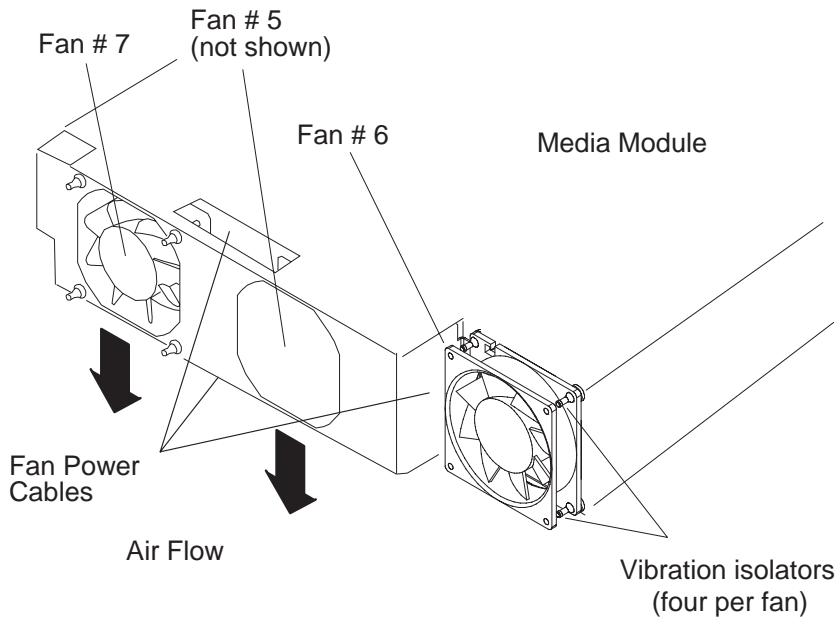
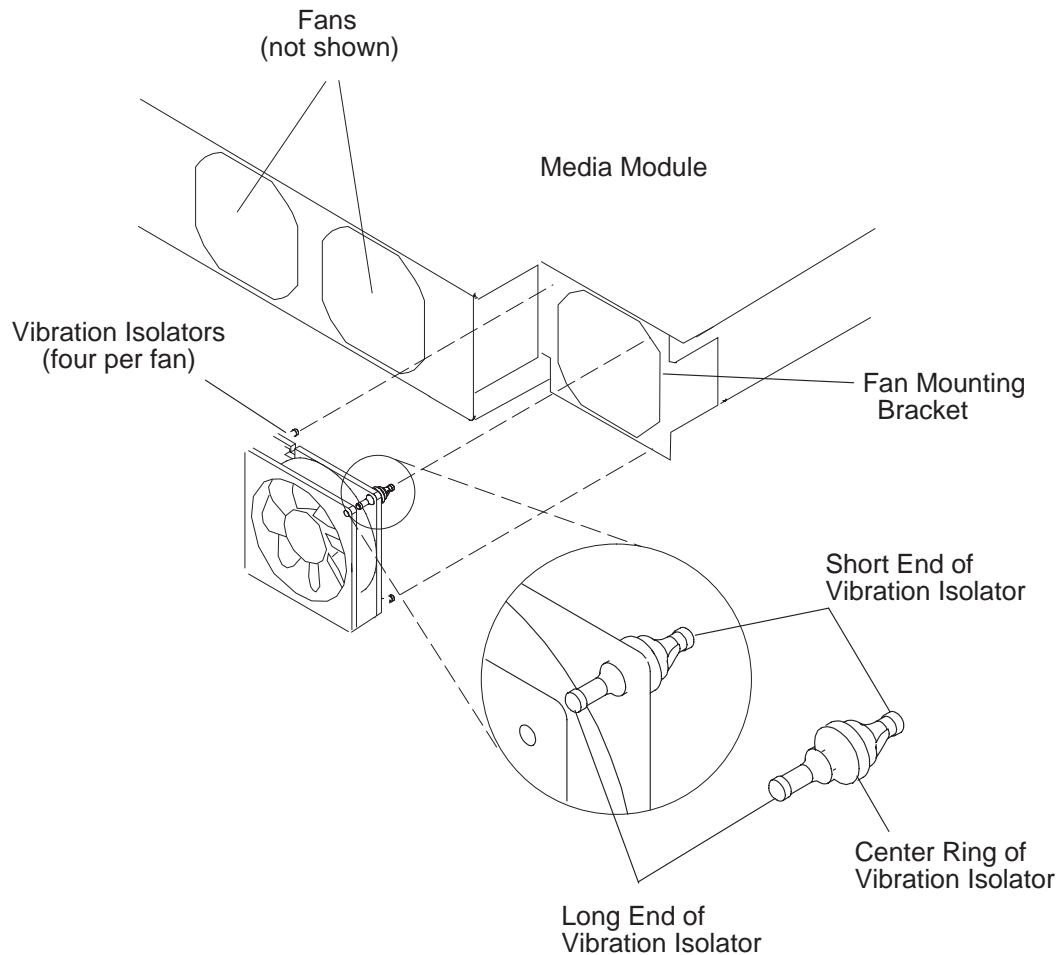

Figure 4-5. Removing the 604 or 604e High Node media module fan
Figure 4-6. Replacing the 604 or 604e High Node media module fan
3. Remove all four vibration isolators by pulling the fan, either downward or away from the media module, until the vibration isolators disengage from either the fan or the media module. See Figure 4-5 on page 4-6 and Figure 4-6 on page 4-7.